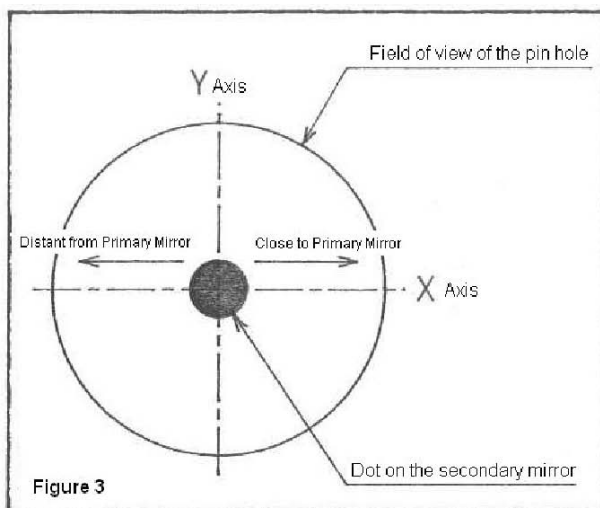

Figure 3
- 5 Using a Sight tube or Cheshire eyepiece and attach it to the visual back of the focuser to look at the secondary mirror surface through the pin hole. You can see the dot on the secondary mirror shown in the Figure 3. Check if the dot moves up and down in the field of view of the pin hole when you move the secondary mirror holder to the left and right-hand direction a little. When it occurs, the dot may not be written in the center of the optical axis correctly. Return to the procedure 2.
- 6 Assuming that cross hairs are put in the field of view shown in the Figure 3, check which side on the vertical Y axis of the imaginary cross hairs the dot can be seen. If the dot is just on the line of Y axis, you can proceed to next step. If the dot is seen on the left-hand side, it means that the secondary mirror is somewhat distant from the primary mirror. If the dot is seen on the right-hand side, it means that the secondary mirror is somewhat close to the primary mirror. Please make sure that you return all the washers to the same place as they are.